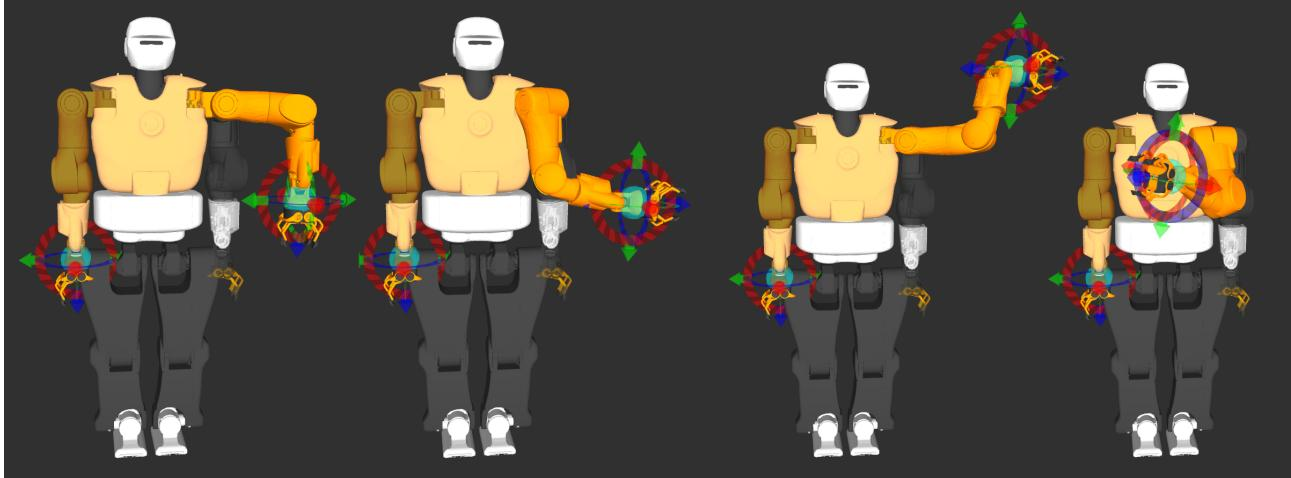

Figure 67: Random poses generated with the GUI
2. By clicking the “Update” button of the goal state, new poses can be randomized. Figure 67 shows a few randomly generated poses.
4. The GUI also allows the operator to define goal poses using the “flying end-effector” method. As shown in Figure 67, the 6DOF pose of the end-effector can be defined using the visual marker attached to it. The red, green and blue arrows define the translation of x, y and z coordinates respectively; the colored rings define the rotation around these axes, following the same logic.